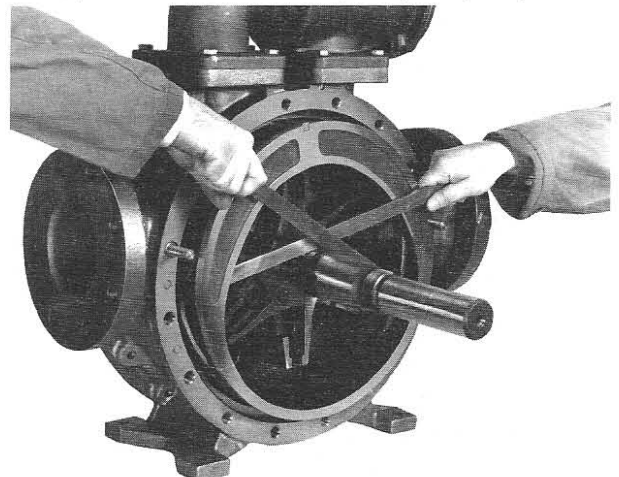

Figure 5 - Liner Removal
6. Remove the head capscrews (21) and head stud nuts (21C). Two jack screw holes are provided in the rim of the head to facilitate removal.
8. The disc (71) will come off with the head assembly and is attached with four (4) countersunk, allen-head machine screws (71A) and lockwashers (71B).
9. From the open side of the pump, grasp the rotor in the 3 and 9 o'clock positions, and gently pull the rotor and shaft (13) out of the head assembly remaining on the casing. **CAUTION:** Use care to avoid injury—the rotor and shaft is heavy and may have sharp edges.
11. Depending on the pump application, the liner (41) can be removed in two ways:
- a. If the pumpage is a clean, non-corrosive liquid, with low viscosity, the liner can usually be withdrawn from the casing by prying with two bars. Insert the tips of the bars into the port openings on either side of the liner, and partially remove the liner by prying against the rotor. Use a block under the bar, against the rotor, to bring the liner the rest of the way out (see Figure 5).